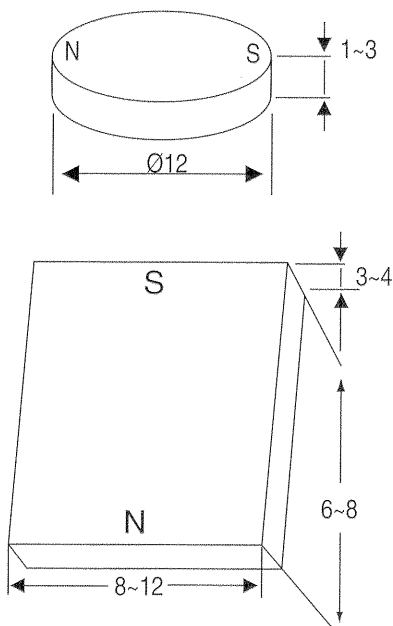
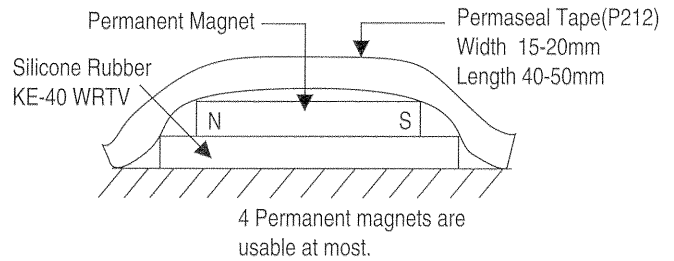

Fig. 2-7
Fig. 2-8 CPT Funnel
- (13) To improve the miss landing mentioned above, it's acceptable to stick the permanent magnet to CPT funnel (Fig. 2-7, Fig. 2-8).